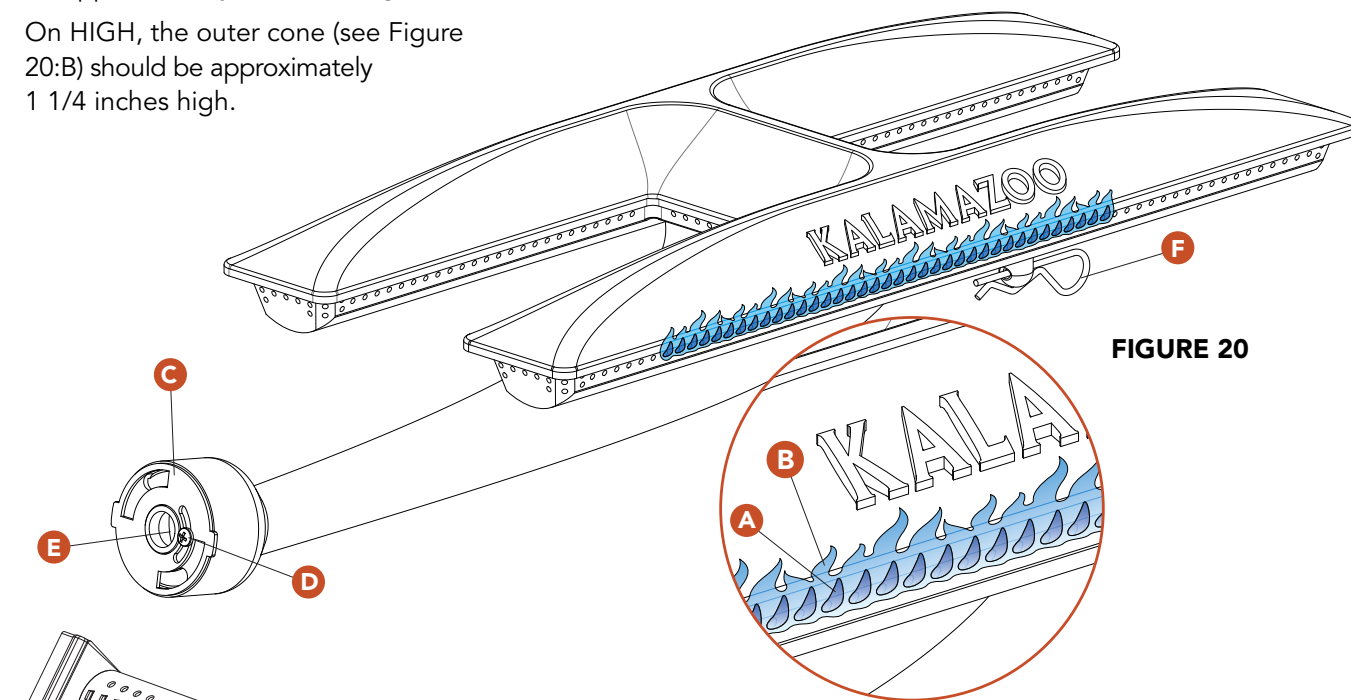

FIGURE 20
- On HIGH, the inner cone (see Figure 20:A) should be approximately 3/8 inch long.
- On HIGH, the outer cone (see Figure 20:B) should be approximately 1 1/4 inches high.
Adjust the main burner air shutters (see Figure 20:C, 23:A) by loosening the lock screw (see Figure 20:D, 23:B). The grill is factory adjusted so that the air shutter is about 50% open. If the flames are too orange, the burners may need more combustion air. Adjust the air shutter to a more open position.